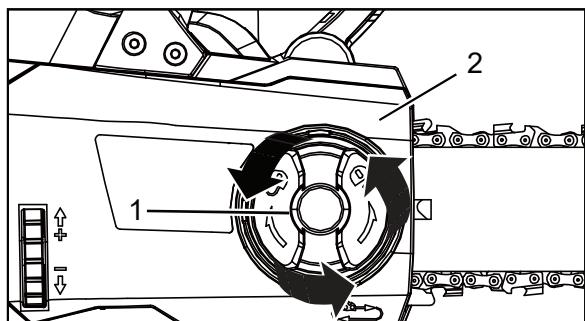

Figure 8 - Remove cover
2. Rotate the side cover lock counterclockwise to remove the cover from the saw's body (Figure 8).